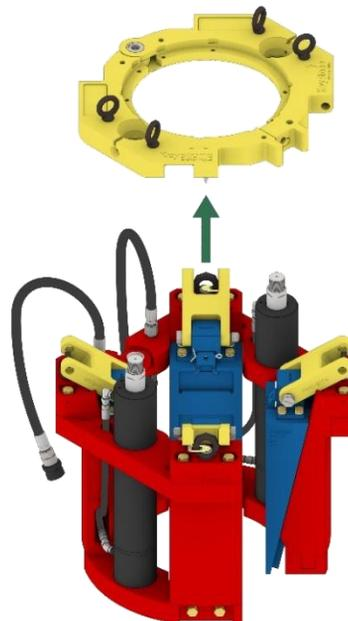

Fig. 23
Step 4: Install the lifting eyes in the leveling plate and lift the leveling plate off of the assembly. Fig. 23